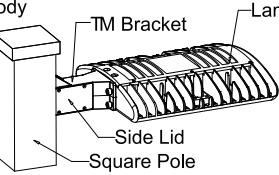

Figure 12-2
2. Fix the DM bracket to the square pole by bolt. Connect the power cable with pole cable, make sure good protection on the wire connection, and put the wire in the DM bracket; close the side lid and tighten it, (Figure 12-2) then finish installation.